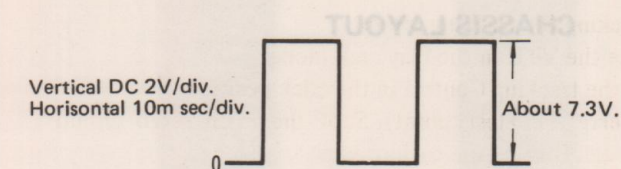

Figure 48
- ① Place the VTR in the REC mode.
- ② Observe the output from the Main Servo (I704) Pin ②③ through the Oscilloscope (EXT. AUTO (+)), and then check to see that the vertical height of the square waveform corresponds to a voltage of about 7.3 V as shown in Fig. 48.